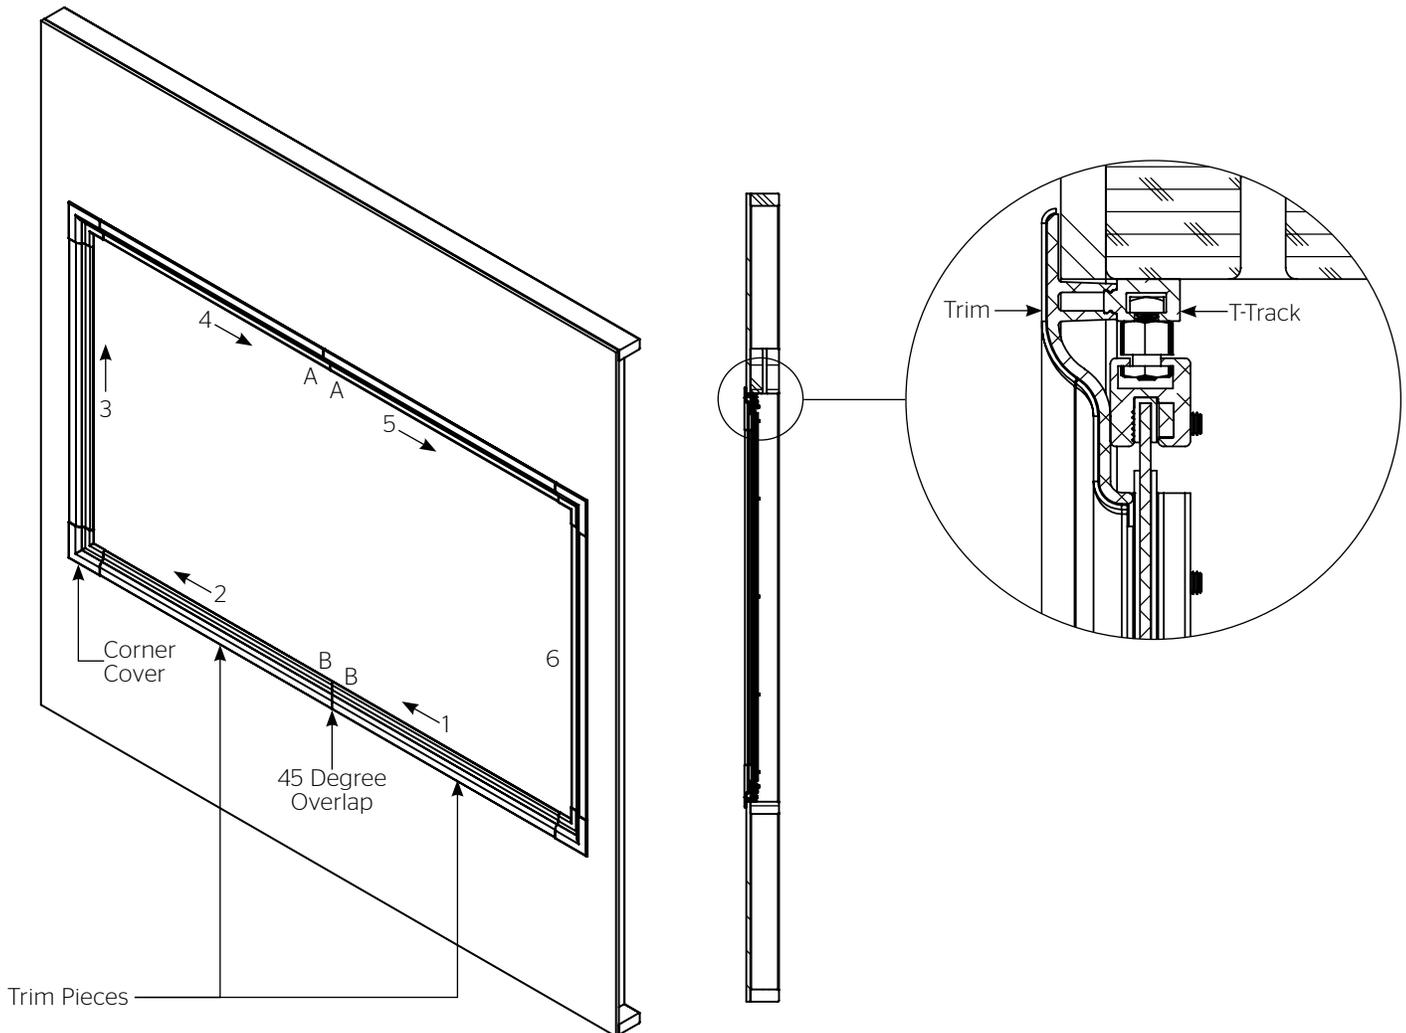

Figure 10
30. Assemble the six provided trim pieces (P). The two top pieces will be labeled "A" at the 45 degree overlap and the two bottom pieces will be labeled "B". The remaining two pieces are for the sides and are interchangeable.
31. Starting at the audience side bottom right corner, align the first piece of bottom trim (P) with the bottom edge of the screen. The end should be approximately 3" from the corner of the wall opening. When aligned, snap the trim (P) onto the T-track while moving along the length of the piece until firmly in place. Align the second bottom piece of trim (P) at the 45 degree overlap and snap onto the T-track starting at the overlap while moving along the length of the piece until firmly in place (Figure 10).
32. Starting at the audience side bottom left corner, align a side piece of trim (P) with the side edge of the screen. The end should be approximately 3" up from the corner of the wall opening. When aligned, snap the trim (P) onto the T-track while moving along the length of the piece until firmly in place (Figure 10).
33. Repeat Step 31 for the top trim pieces (P) and Step 32 for the audience right trim piece (P) (Figure 10).
34. Place corner covers (Q) over each corner to check fit and alignment. Adjust trim if necessary. When satisfied with desired placement of all four corner covers (Q), peel the red release liners from the two pieces of adhesive and firmly press each corner cover into place (Figure 10).